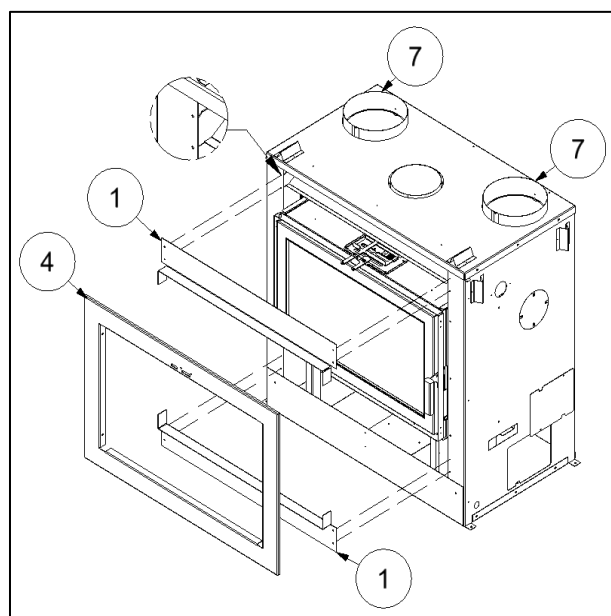

Figure 3-13: Top and Bottom Front Cover Installation for Clean Face Surround
2. Align the bottom Clean Face front cover (Item 1) and fasten it in place (Figure 3-13).
3. Align the top Clean Face front cover (Item 1) and fasten it in place (Figure 3-13).